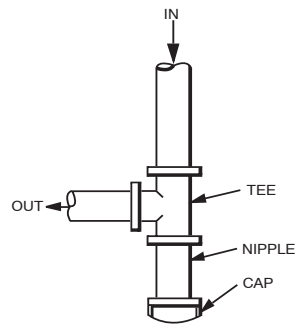

Fig. 8 - Sediment Trap
- Install sediment trap in riser leading to heating section (See Fig. 8). This drip leg functions as a trap for dirt and condensate.